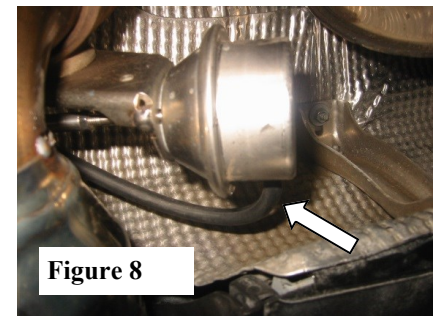

Figure 8
8. Disconnect vacuum hose from valves on both sides. (See Fig. 8)